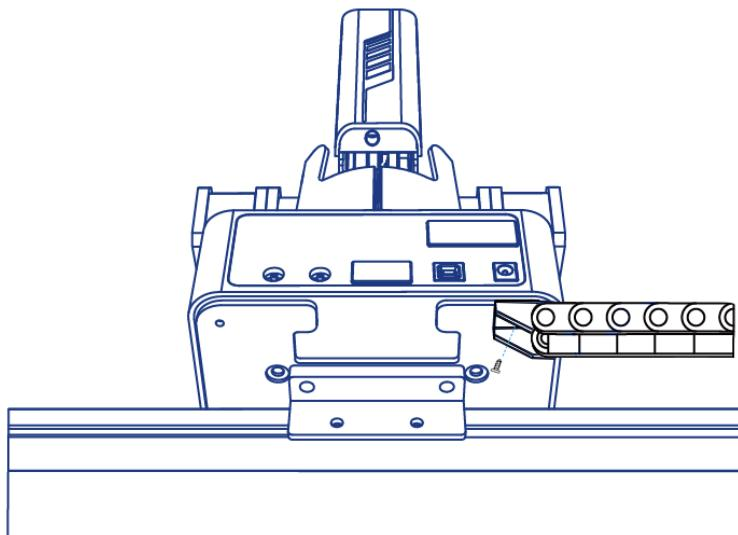

Figure 5.191 Connect with wire set
**Step 3** Connect the end of the wire set to the plate b with a M3\*6 countersunk head hexagon screw, as shown in Figure 5.191.